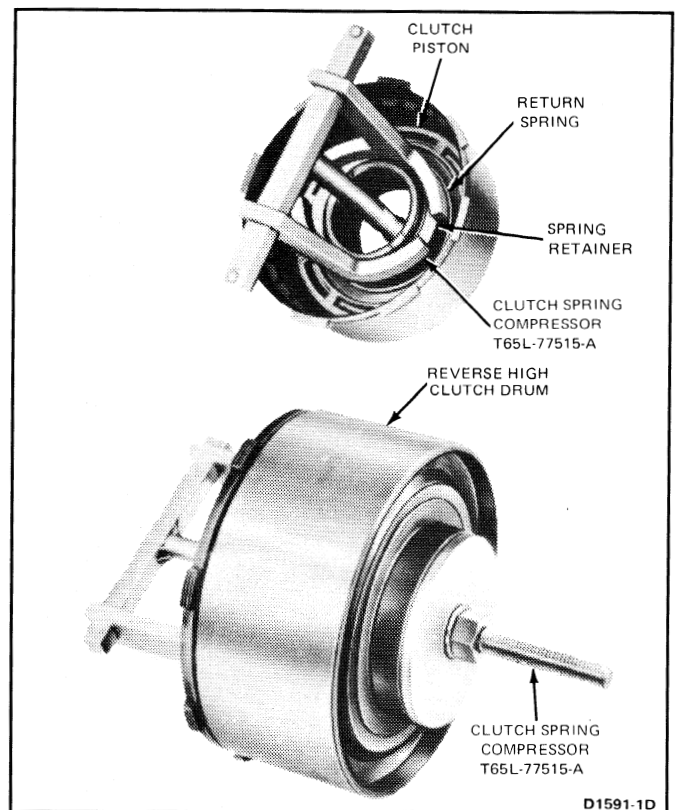

FIG. 42 Removing or Installing Reverse-High Clutch Piston Snap Ring
3. Install Clutch Spring Compressor, Tool T65L-77515-A (Fig. 42) on the reverse-high clutch drum. Make sure that the legs clear the snap ring enough to remove it. Remove both snap rings and remove the tool.
5. Install Clutch Spring Compressor, Tool T65L-77515-A (Fig. 42) and compress the springs. Make certain that the spring retainer is centered while compressing the springs. Install the snap ring. **Before releasing the pressure on the tool, make certain that the snap ring is positioned inside of the four snap ring guides on the spring retainer.**